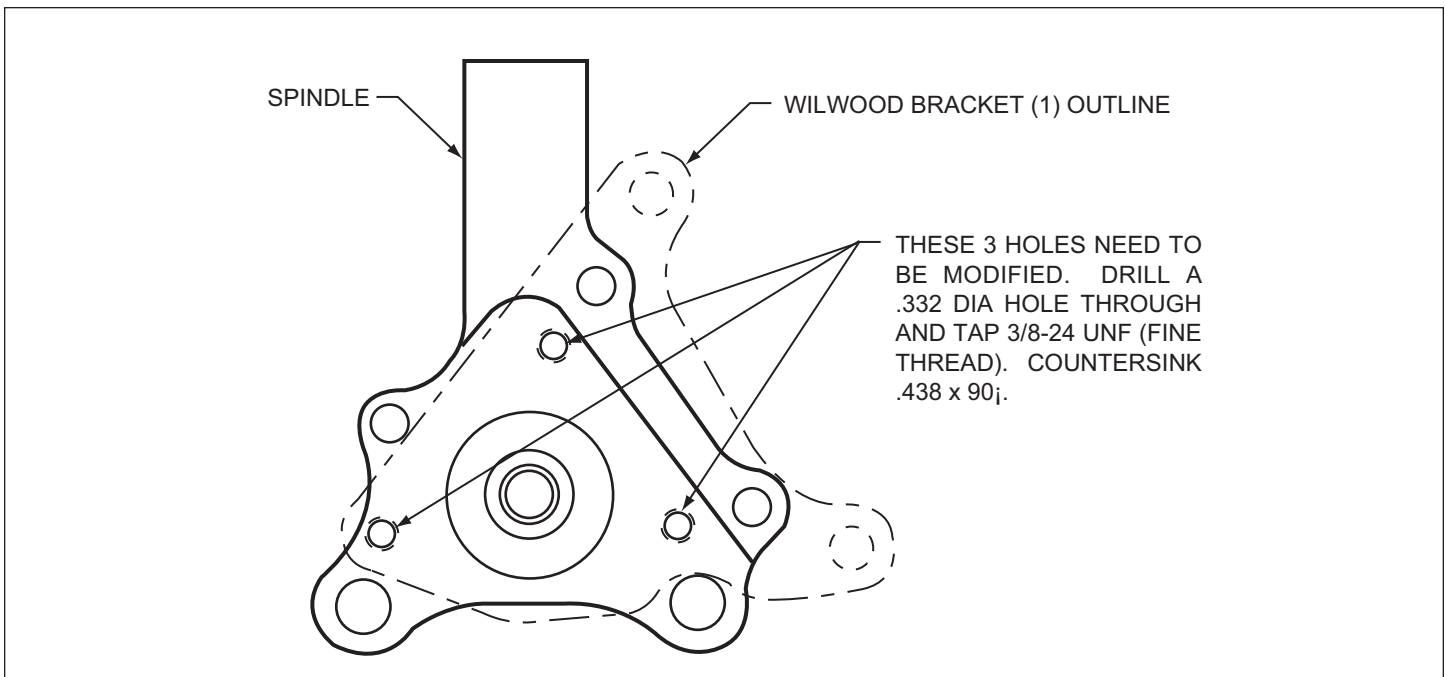

Figure 1. Steering Arm / Spindle Modifications
These modifications should be performed by a qualified machinist. Refer to Figure 1 on the following page as necessary (numbers in parenthesis refer to the parts list on page three). Only one view of the steering arm/spindle is shown, but the modifications need to be performed on both steering arm/spindles.
- Mount the adapter/rotor assembly (7/8) to the hub (4) using bolts (10) (finger tight), as shown in Figure 1. Using an alternating sequence, remove bolts one at a time, apply red *Loctite*® 271 to the threads, and torque to 55 ft-lb.
- Pack the small outer bearing cone (12) with high temperature disc brake bearing grease. Lightly coat the spindle bearing surfaces with bearing grease. Slide the hub/rotor assembly (4 and 8) with outer bearing cone (12) onto the spindle. Secure using spindle washer (13), existing adjusting nut and nut locking device.